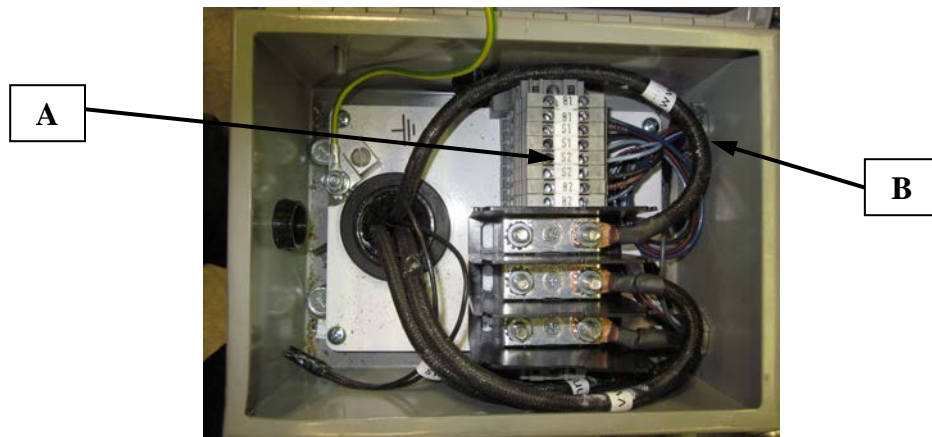

Figure 11
- After writing down the wire colors and terminal block designations, remove the proper brake wires from the terminal blocks "A" and the corresponding conduit nut "B." Figure 11.